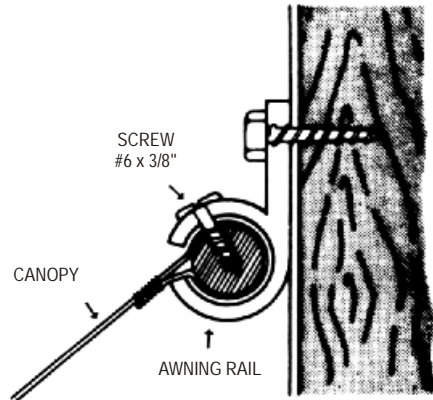

Fig. 7
D. Drill a $\frac{3}{32}$ " hole through the awning rail at 2" from the fabric edge. Fig. 7